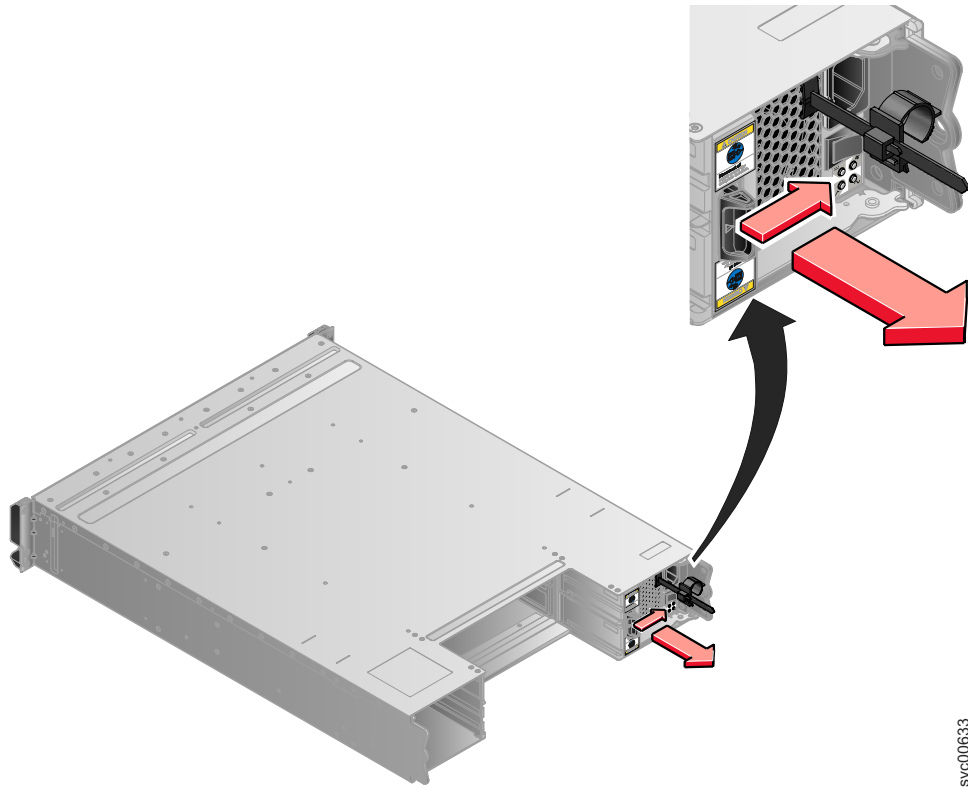

Figure 57. Directions for lifting the handle on the power supply unit
- a. Depress the black locking catch from the side with the colored sticker as shown in Figure 57 on page 234.